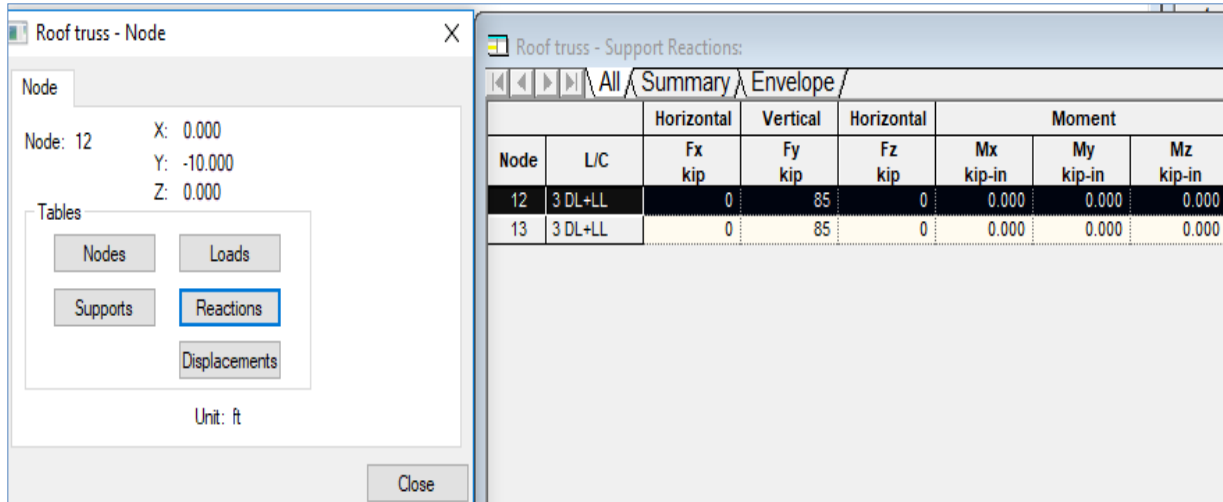

Fig: 4.15
- For Support Reactions use node cursor and double click on the support point →Reactions. Then get the Table for all Support Reactions. (Fig: 4.15)